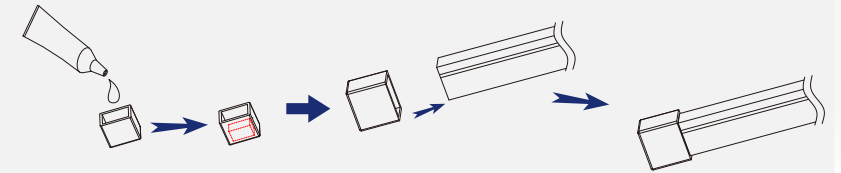

Figure 2
2. Fill the plug with glue, and put the neon flex into the plug, installation completed, as shown in Figure 2.